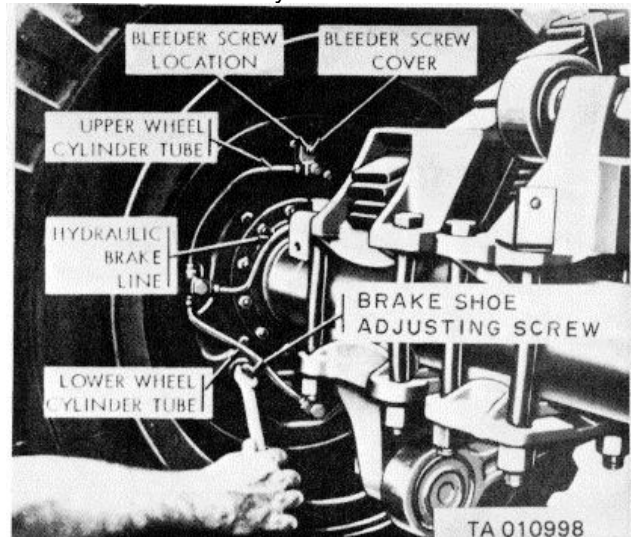

Figure 4-26. Brake adjustment.
(1) Turn brake shoe adjusting screw (fig 4-26), located at top rear face of brake backing plate, clockwise to expand the front brake lining in contact with brake drum until brakes drag slightly when wheel or drum is turned by hand.
(2) Back off adjusting screw just enough to allow drum to rotate freely.